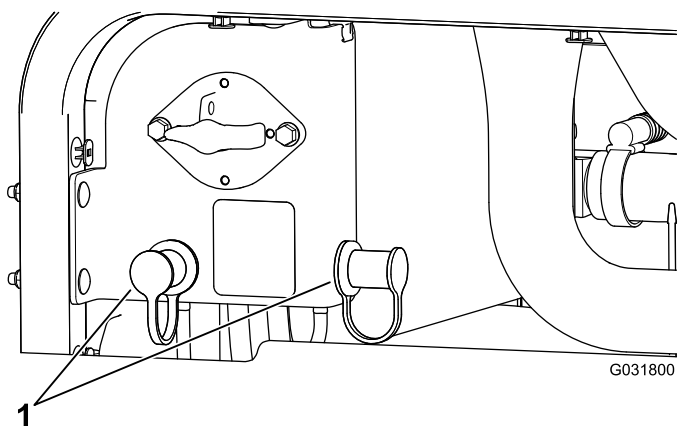

Figure 109
3. Remove the covers from the jump posts (Figure 109).